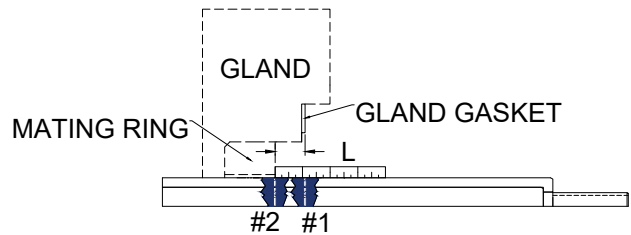

Figure 10: Measure seal face location
2. Measure the distance from the stationary mating ring face to the seal chamber face. This can be accomplished by simply measuring the distance from the top of the gland gasket to the mating ring as seen in Figure 10. The future location of Line #2 is shown as a reference for the reader.